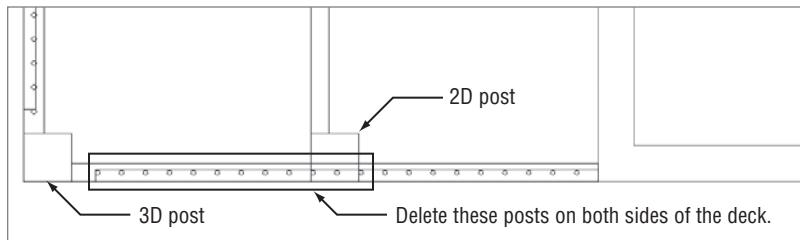

FIGURE 16.69 Delete the posts shown.
8. Delete any of the handrail posts that exist between the 8" (204 mm) 3D support posts and the 8" (204 mm) 2D support posts (see Figure 16.69) on both sides of the deck.